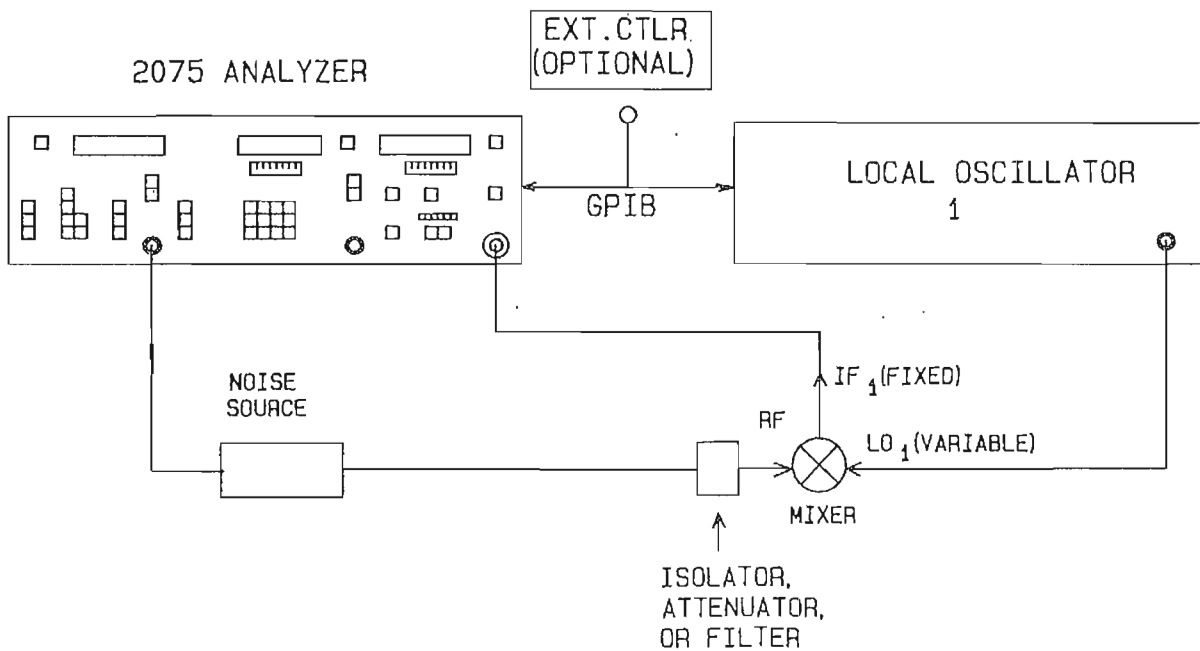

Figure 3-13a. TEST CONFIGURATION 6 CALIBRATION
Figures 3-13a and 3-13b are the connection diagrams for calibration and measurement when external relays are not used. An optional setup can be used where external relays, controlled by the 2075, provide the calibration path. (See Paragraph 3-34, page 3-75.)
1. Connect the test equipment as shown in the calibration setup of Figure 3-13a or the optional setup using external relays.